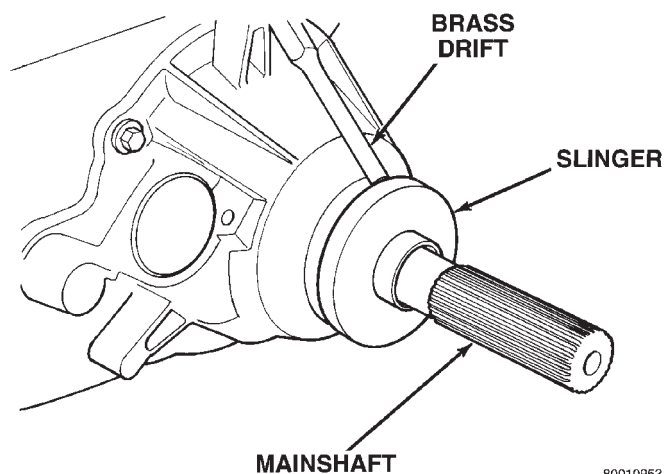

Fig. 8 Rear Slinger Removal
(2) Remove rear slinger with brass drift and hammer (Fig. 8). Rotate slinger and tap at four positions 90 degrees apart to remove it. Discard slinger as it is not reusable.